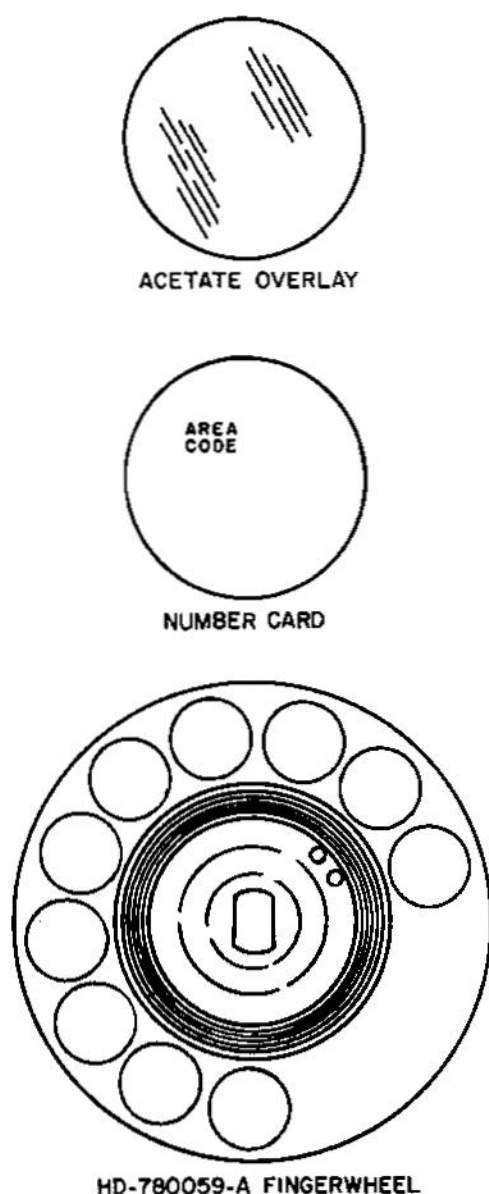

Figure 5. GTE AE Polycarbonate Fingerwheel and Adhesive Number Card.
3.05 The GTE AE HD-780059-A fingerwheel (Figure 5) supersedes the D-780896-A fingerwheel. The HD-780059-A fingerwheel is molded from polycarbonate, and the top has a depressed circular area 1-1/4 inches in diameter